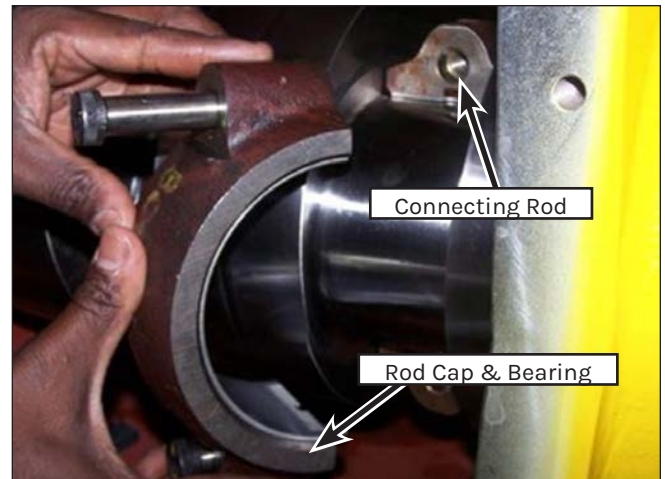
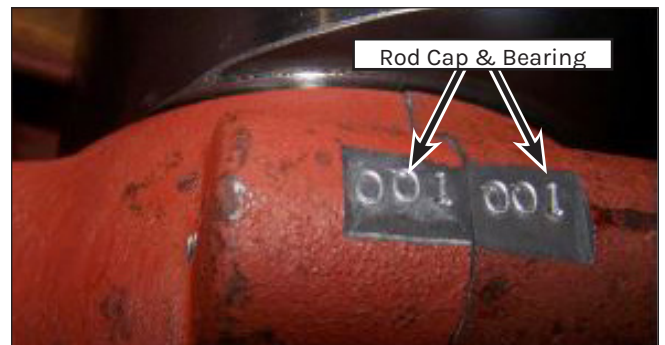

Figure 165: Rod Cap Installation.
Figure 166: Matched Parts Stampings.
6. Pull the connecting rod (Figure 165) onto the crankshaft and place the rod cap into position aligned with the connecting rod. Ensure the stampings (Figure 166) on the cap and rod match.